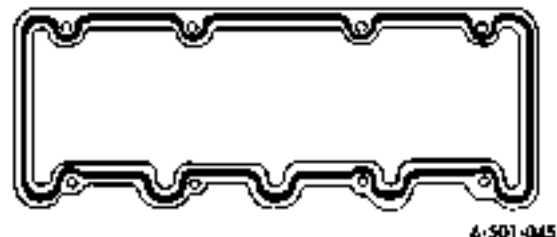

Figure 2-44: Applying Sealer to Rocker Arm Cover
10. Apply sealer to rocker arm cover (Figure 2-44). Make sealer bead 3/16 inch wide by 1/16 inch thick. Use RTV-type silicone, adhesive-sealer such as Loctite 592, or Permatex High Temp, Ultra Copper, or Ultra Blue. Allow sealer to cure slightly (skin over) before installing cover.